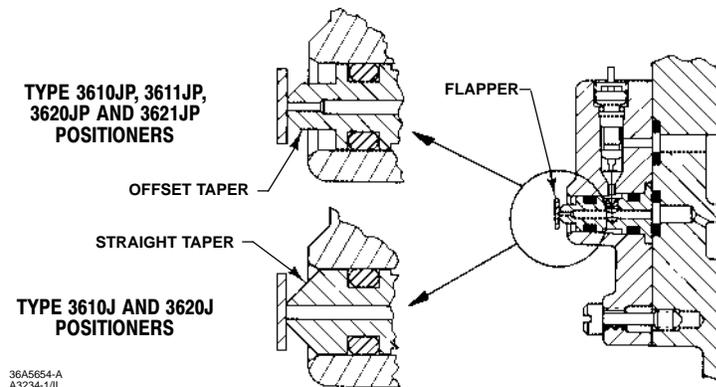

Figure 7. Nozzle Block Assembly
assembly (key 116, figure 25), the feedback lever assembly (key 117 or 170, figure 29), and the range spring (key 150, figure 25). Refer to the Parts List for part number identification. Changing parts may require partial disassembly and reassembly as described in the Maintenance section. Figure 7 illustrates the slight difference in nozzle assemblies between the single-acting (Type 3610J and 3620J) and double-acting (Type 3610JP, 3620JP, 3611JP and 3621JP) positioners. See the Changing Positioner Types procedure in the Maintenance section for additional information.